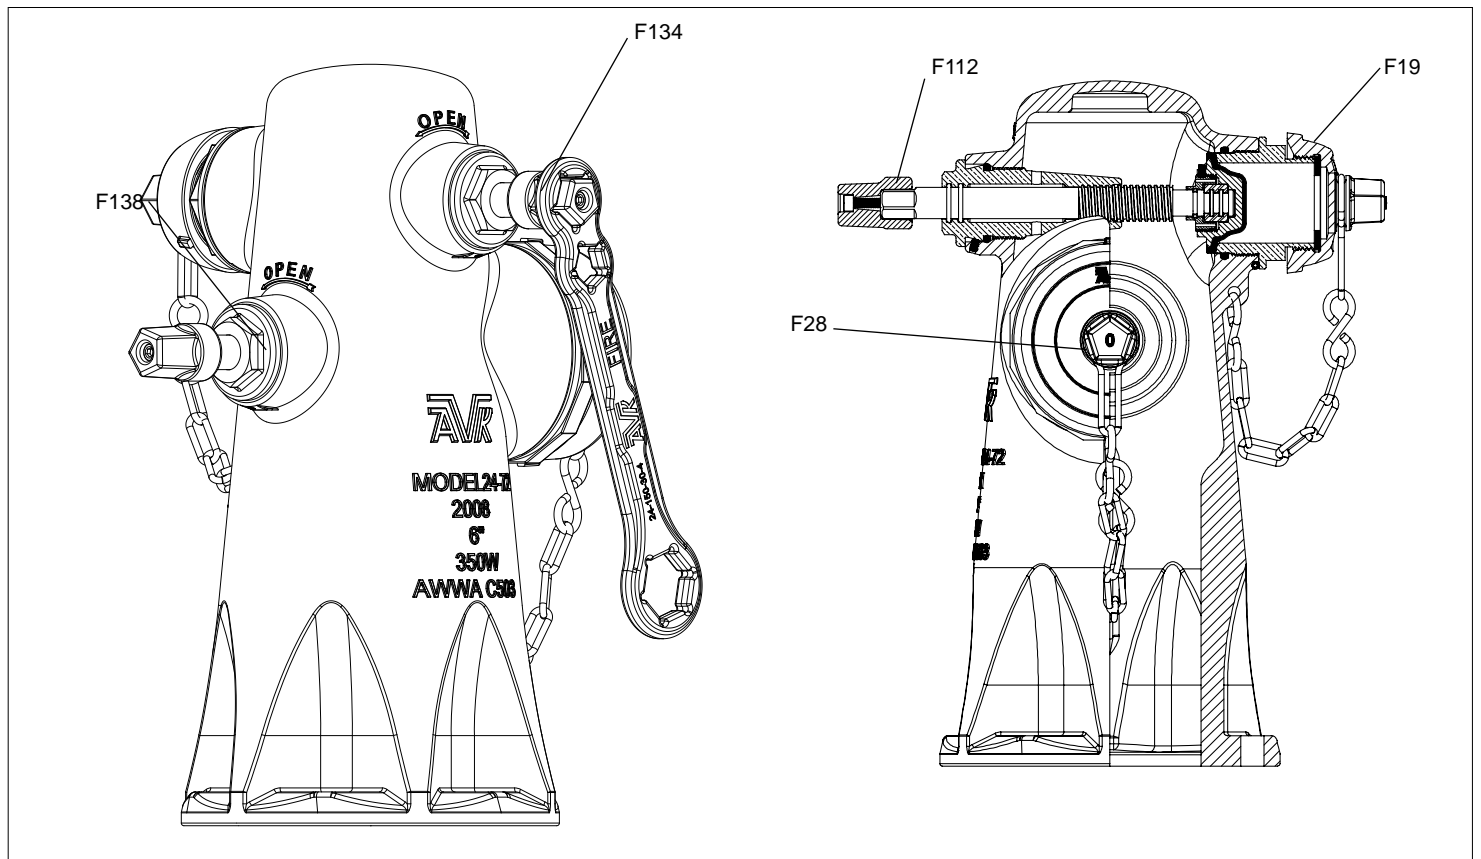

Fig. 2
1. Verify that all of the hydrant outlets are fully closed. Note that all AVK Wet Barrel Hydrants are manufactured in the "Open Left", configuration. (See Fig. 2.)